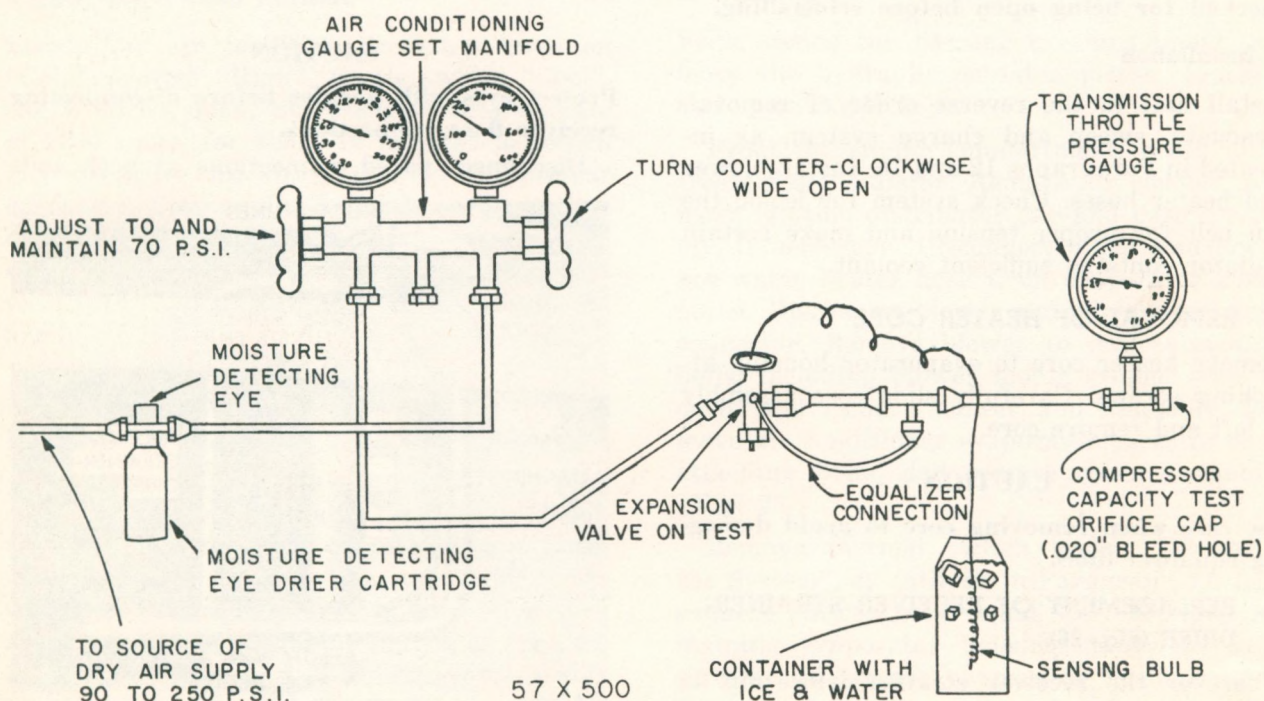

Fig. 27—Testing Expansion Valve (Unit Removed from Car)
b. Testing Expansion Valve (Equipment Required) (Fig. 27)
Container with ice and water to hold temperature at 32 degrees F. $\frac{1}{4}$ inch copper tubing and fittings as used in attached drawing (Fig. 27).